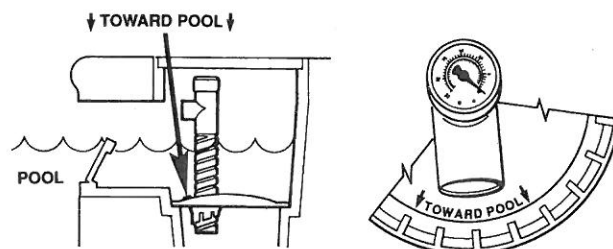
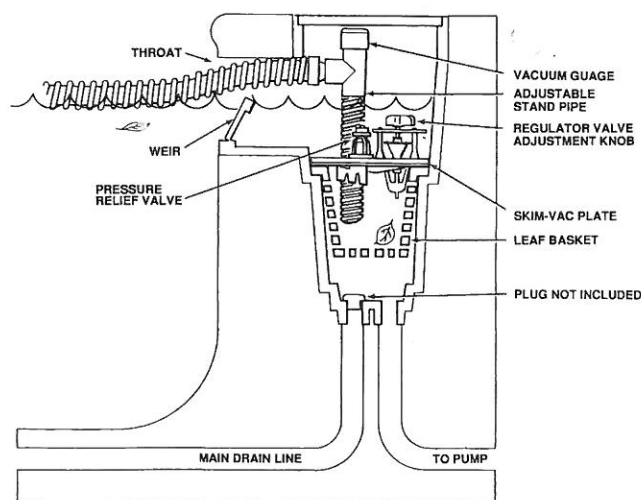

Fig. 2
Fig. 3
- 5** Install the Skim-Vac Plate into the skimmer with the words ↓ TOWARD POOL ↓ facing the skimmer throat (see Fig. 2). Adjust the stand pipe so that it is lined up with ↓ TOWARD POOL ↓ (see Fig. 2) and level with the top of the inside of the skimmer throat (see Fig. 3). This is necessary to allow the skimmer wiper to function and to prevent the Skim-Vac Plate from tipping in the skimmer. Also, this will assure that the vacuum gauge is not submerged.
- 6** Remove the Skim-Vac Plate and the basket. Place the Skim-Vac Plate on the basket and note the distance between the bottom of the stand pipe and the bottom of the skimmer basket (see Fig. 3). If this distance is less than 2", it will be necessary to trim the stand pipe by cutting it with a hacksaw.
- 8** Remove all air from cleaner hose. Insert the cleaner hose through the skimmer throat and into the opening in the stand pipe — checking to make sure that the hose does not interfere with the skimmer wiper (see Fig. 3). If the cleaner hose does not fit into the opening in the stand pipe, it might be necessary to purchase an optional V092 Hose Adapter from your dealer. If there is no wiper in the skimmer throat, consult your dealer.
11 Observe the cleaner. If the cleaner is not moving, the system has started in the skim cycle, and the pump must be turned off and then on again to change to the vacuum or cleaner cycle. With the cleaner operating, adjust the black knob on the regulator valve (see Figs. 3 & 4) on the Skim-Vac Plate so that the vacuum gauge reading corresponds to the cleaner manufacturer's recommendations in the cleaner instruction manual. Fig. 5 is a table for the convenience of Pool Vac owners.